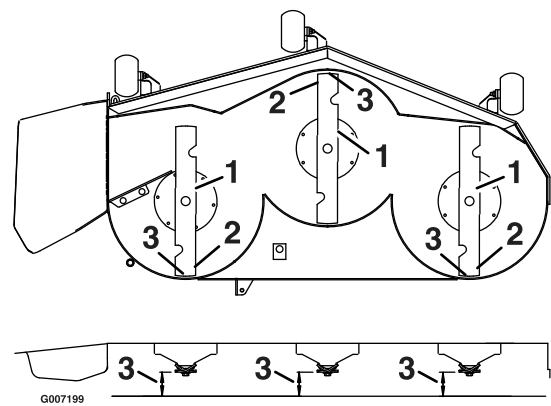

Figure 59
3. Carefully rotate the blades so they are facing front to rear (Figure 59).
4. Measure from the tip of the front blade to the flat surface and the tip of the rear blade to the flat surface (Figure 59).